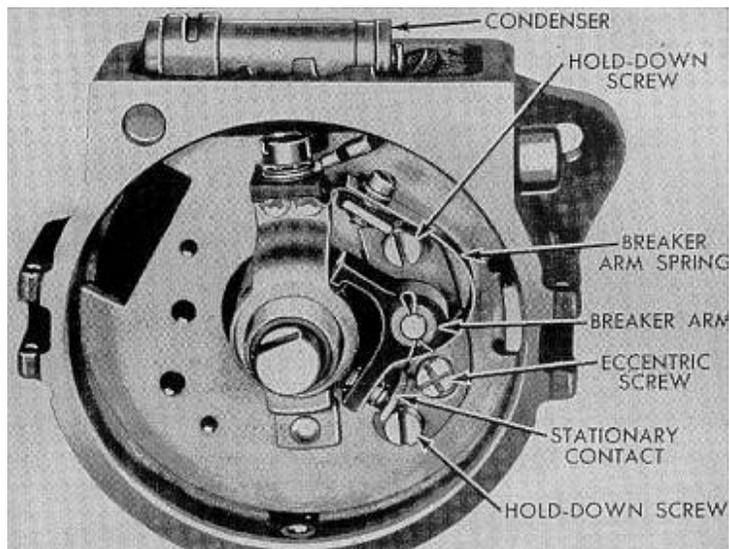
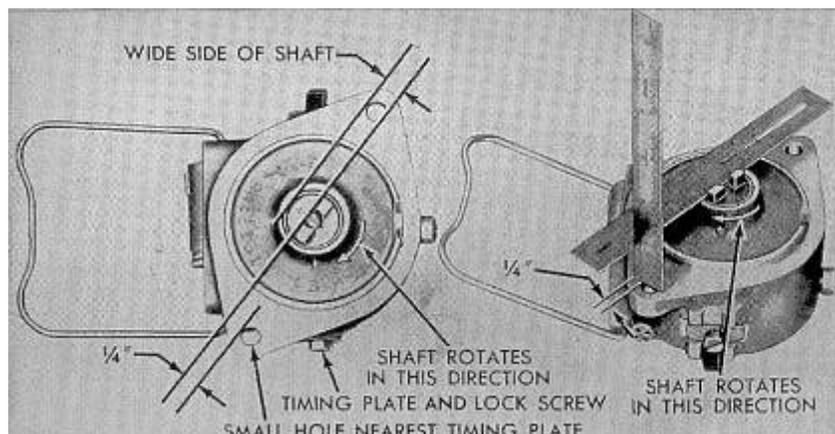

Fig. F044 - Distributor breaker contacts of Ford 8N12100 distributor used on models 2N, 9N, and 8N prior to tractor serial 263844.
Fig. F045 - Distributor basic timing adjustment on models 2N-9N and 8N prior to tractor serial 263844.
54. On 2N, 9N and 8N tractors prior to serial 263844 the Ford 9N12100 battery ignition distributor is mounted on the front face of the timing gear cover directly in line with camshaft. Refer to Fig. F044. In these installations the front end of the camshaft is slotted to receive a mating tang on the drive end of the distributor shaft. Spark timing at speeds above idling is controlled by a centrifugal governor built into the distributor. Full automatic spark advance is 24 crankshaft degrees, 12 distributor degrees @ 2000 engine rpm. Recommended contact gap is .015 or a dwell of 35-38 degrees. The Ford 91A12300 condenser is of .29-.32 mfd capacity and should have an insulation resistance of
55. **TIMING TO ENGINE.** Adjust breaker contacts to .015 gap by loosening the two hold-down screws (Fig. F044) and turning the eccentric screw. Place a scale against the tang on the wide side of the distributor shaft as shown in Fig. F045 then rotate the shaft until the scale is 1/4 inch from the near edge of the small mounting hole as shown. With shaft in this position, the contacts should be just starting to open. Move the adjustment plate on the left side of the distributor down to advance the timing, up to retard the timing. If proper timing is not obtained on the first attempt, turn shaft backward 1/2 turn to eliminate backlash, then repeat the check.
Loosen condenser lead and mounting screws and remove condenser. Pry out snap ring and remove breaker plate after lock screw is removed. Check distributor shaft fit in housing and breaker plate bracket, check condition of centrifugal advance mechanism, breaker contacts and condenser. Repair or renew parts where necessary and reassemble unit. Adjust breaker contact gap to .014-.016 and lubricate breaker point cam sparingly. See Fig. F044.
To set basic timing before reinstalling distributor unit, place a steel scale against shaft tang on wide side of shaft and rotate shaft until scale edge is 1/4 inch from top side of small mounting hole as shown in Fig. F045. When shaft is in that position, breaker contacts should start to open. Move timing plate and screw until contacts open properly.